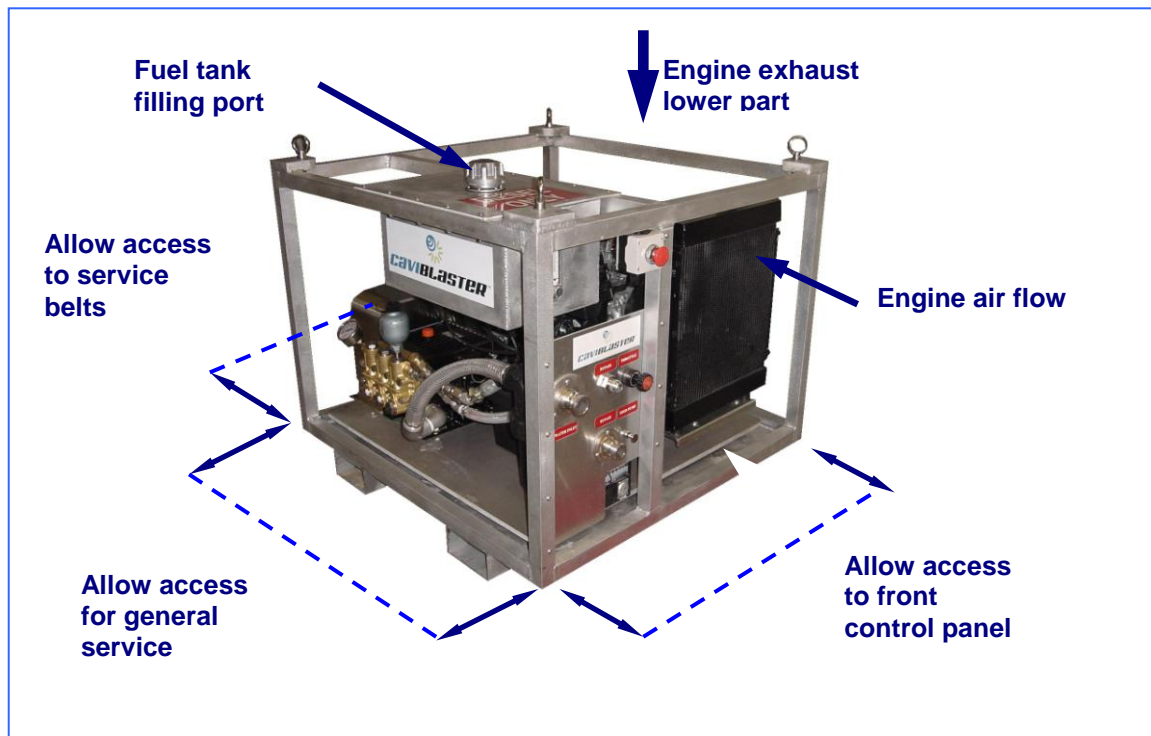

Figure 4.2 – Installation Guidelines
Figure 4.2 – Installation Guidelines	14
*** Enclosed installations will require provisions for adequate engine cooling air flow and for venting of engine exhaust. See Figure 4.2 below.**